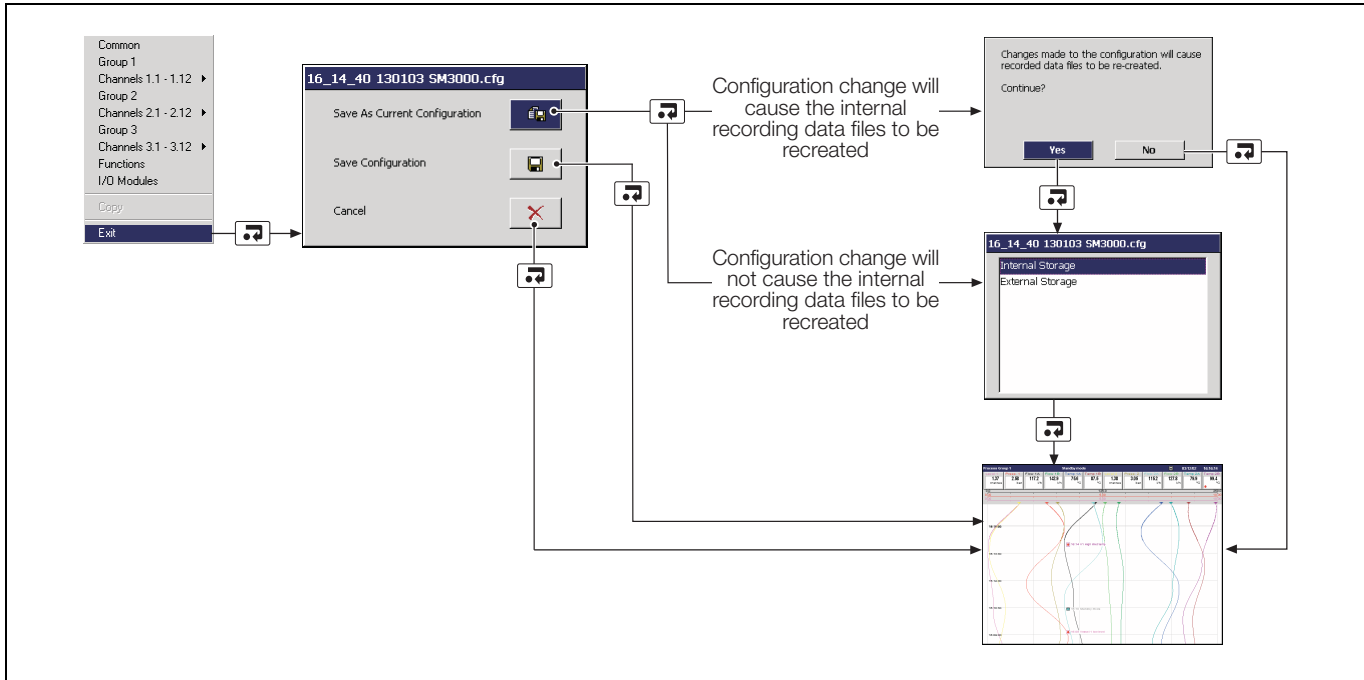

Fig. 6.7 Exiting Configuration Mode
- Changes to the date and time are effective immediately upon selecting 'OK' in the dialog box above. Selecting 'Cancel' upon exiting Configuration Mode (see Fig. 6.7, page 60) does not reset the clock to its previous setting. Select 'Cancel' in the dialog box above to exit date and time setup without saving changes.
Note. Changes to daylight saving are effective immediately a method is selected. However, if 'Cancel' is selected upon exiting Configuration Mode (see Fig. 6.7, page 60), the last saved daylight saving settings are restored.